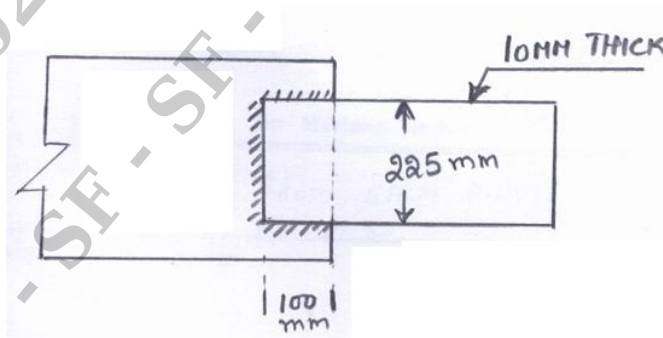

Fig. Q5 (b)
b. Determine the block shear strength of the welded tension member shown in Fig. Q5 (b). Steel is of grade Fe410. (06 Marks)
- 5 c. Determine the tensile capacity of the section shown in Fig. Q5 (c)., if